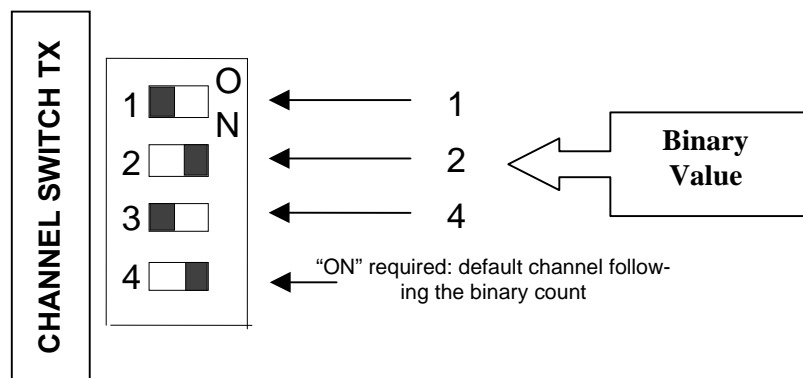

Figure 87 - Backplane DIP switches example – Channel 5 selected
2. Select the active or, the lowest (in the case of multi-channel base) frequency channel (via dip switch, refer to Figure 87).